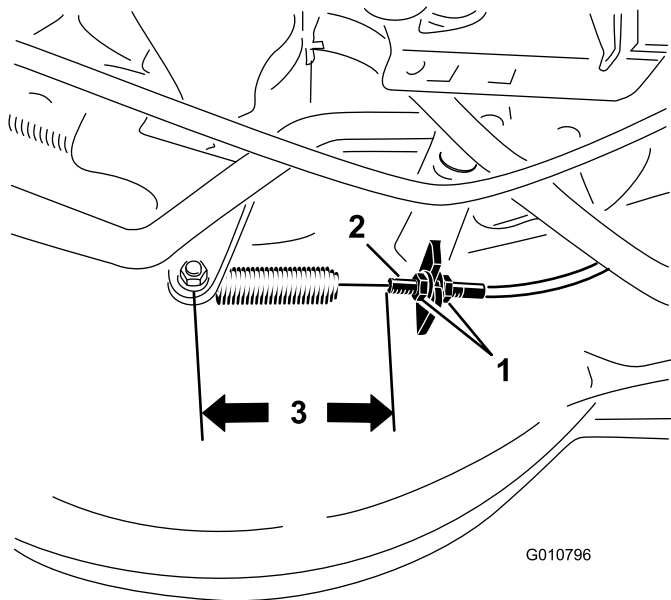

Figure 26
4. Loosen the blade brake cable nuts until the brake cable conduit slides (Figure 26).
Note: The distance from the end of the brake cable conduit to the bolt that anchors the spring should measure 4-1/2 inches (11.4 cm). Refer to Figure 26.